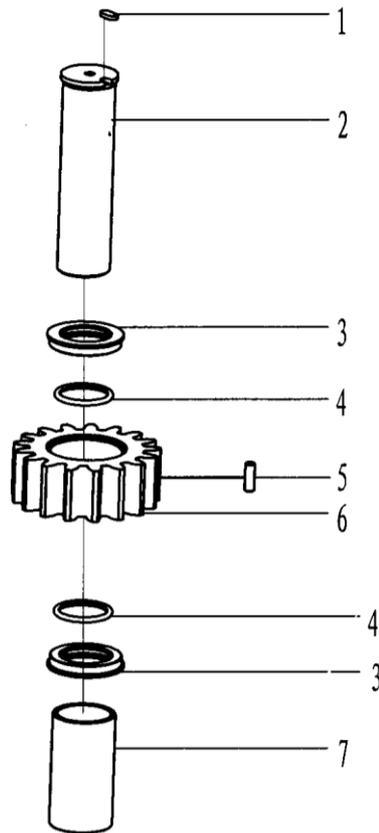

Fig6.Idle shaft assembly
7.2.4 Idle shaft assembly (Fig6. Table6)